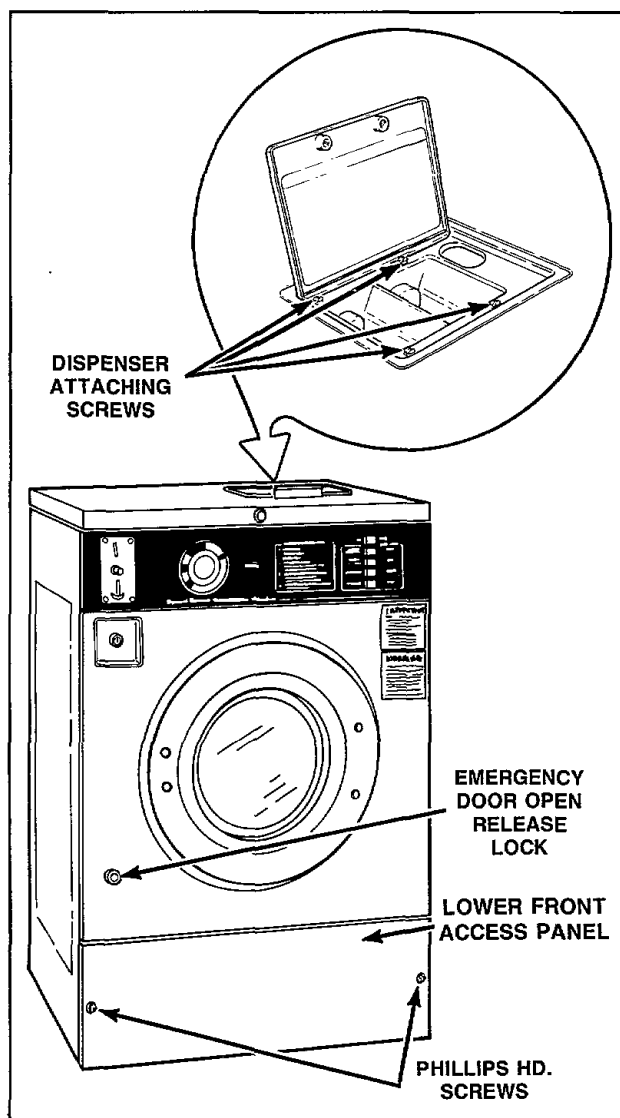

Figure 1
- Open dispenser door and remove four screws holding cabinet top to dispenser, *Figure 1*.
Remove the two screws and cupped washers holding the lower front access panel to the washer side panels and remove the panel, *Figure 1*.
- b. Insert key into the emergency door release lock, *Figure 1*. Turn the key 1/4 turn to the right (clockwise) to unlock and open the loading door.
washer side panels and remove the access panel, *Figure 1*.
- Remove two screws and cupped washers holding the lower front access panel to the washer side panels and remove panel, *Figure 1*.
- b. Insert the key into the emergency door release lock, *Figure 1*. Turn the key 1/4 turn to the right (clockwise) to unlock and open the loading door.
- c. Remove two Phillips head screws (and cupped washers) holding lower front access panel to the washer side panels and remove panel, *Figure 1*.
- d. Open dispenser door and remove four screws holding cabinet top to dispenser, *Figure 1*.
- a. Remove two screws and cupped washers holding the lower front access panel to the washer side panels and remove the panel, *Figure 1*.